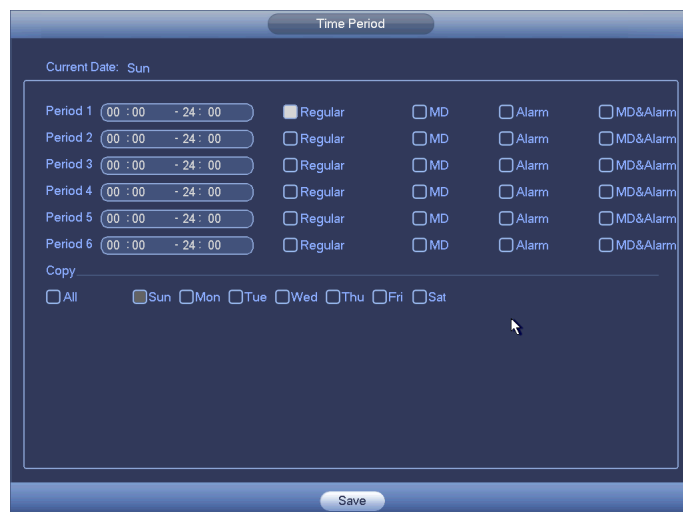

Figure 4-45
- Period setup: Click button  after one date or a holiday, you can see an interface shown as in Figure 4-45. There are five record types: regular, motion detection (MD), Alarm, MD & alarm and intelligent.